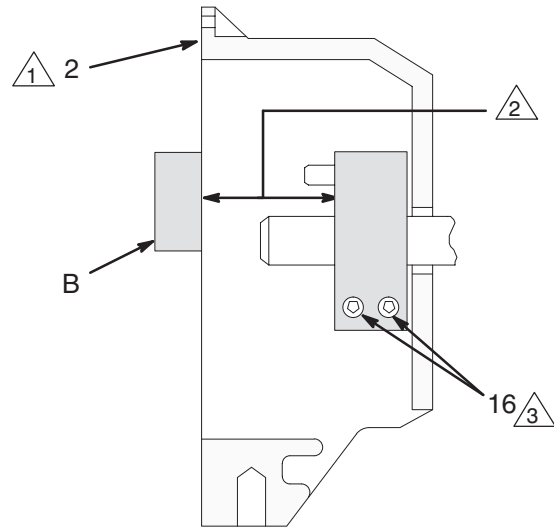

Fig. 18
3. Press the **clamp (3)** onto the engine shaft (A). Maintain the 1.99 ± 0.01 in. (50.55 ± 0.25 mm) dimension shown in Fig. 18.